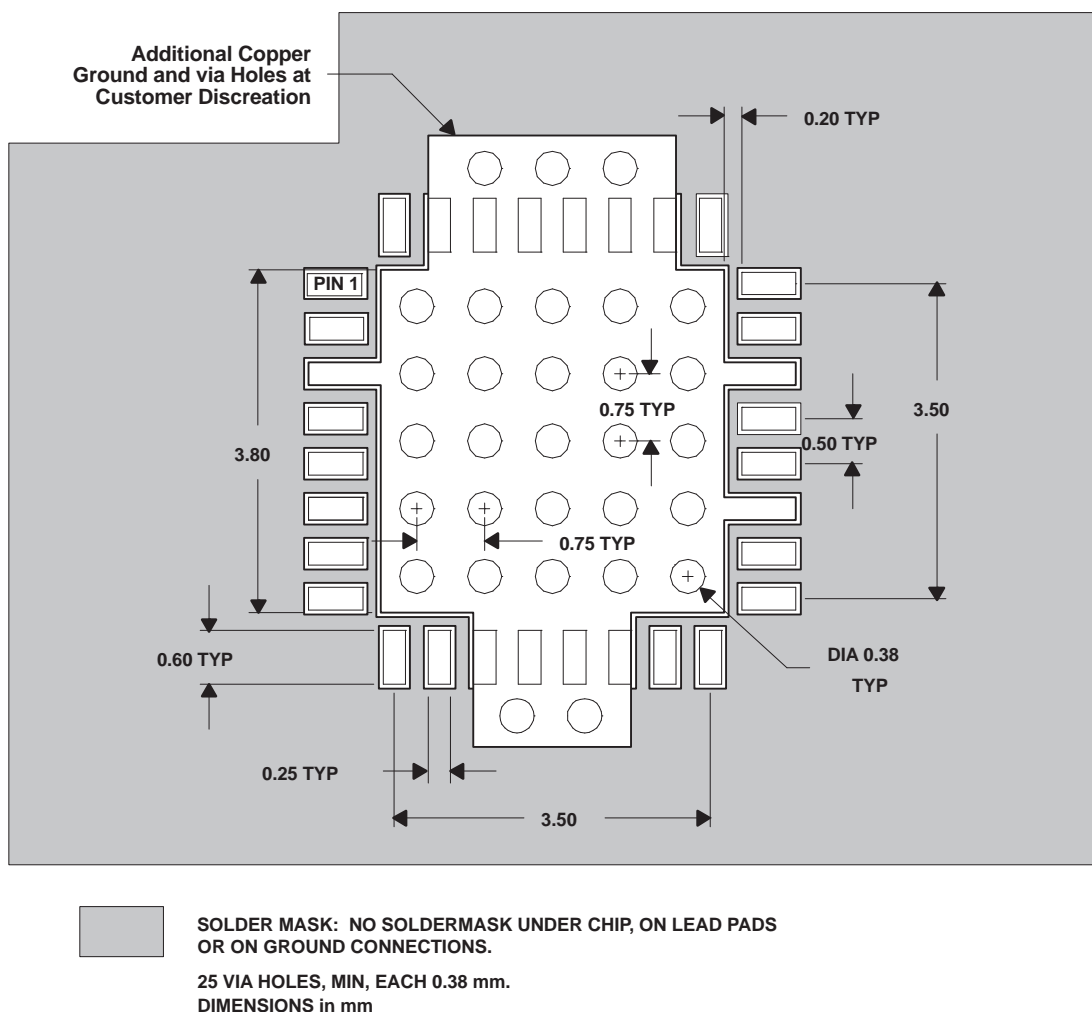
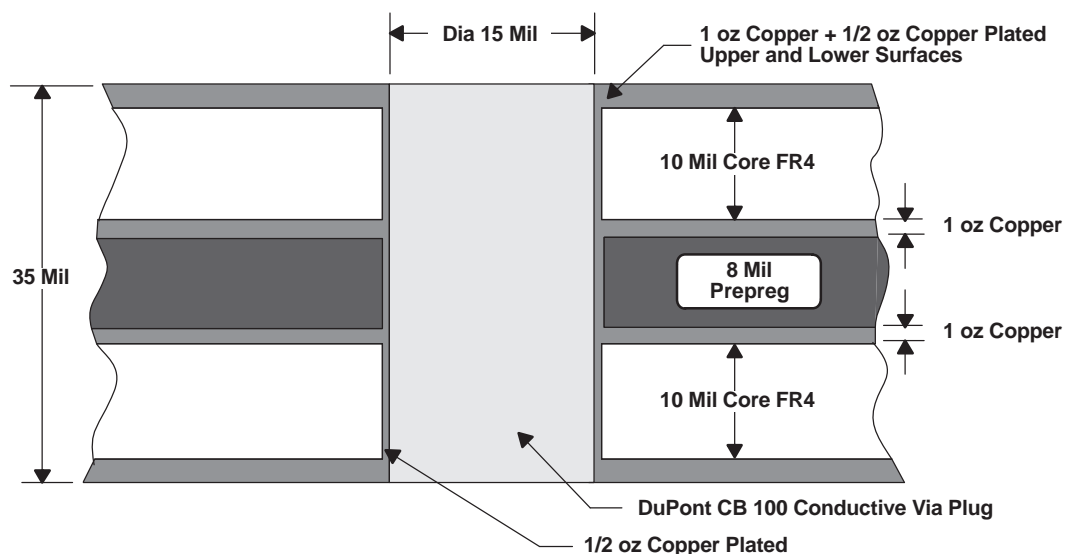

Figure 6. Recommended Pad Layout
Figure 7. Via Cross Section
(1) Thermal resistance is junction to case assuming thermal pad with 25 thermal vias under package metal base. See the recommended layout Figure 6 and application note RA1005 for more detail.
All data was taken on parts mounted on PCBs using the pad layout specified in Figure 6 and the filled via process illustrated in Figure 7.
The recommended PCB layout mask is shown in Figure 6, along with recommendations on the board material in Table 2 and construction in Figure 7.